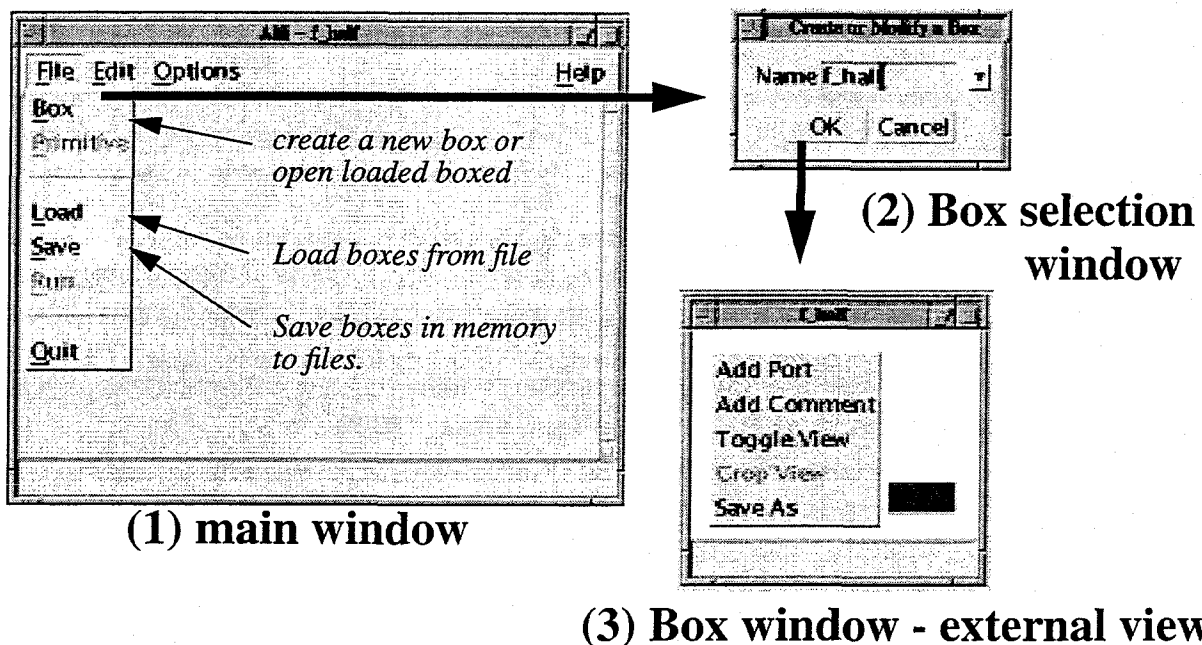

Figure 1: Starting up alfi
The details of this software is given in the Alfi manual. In the windows shown below, all texts written in *italic* and arrows are comments, and will not exit in the real window. When you have completed the setup explained in Section 5, just type `alfi` in the shell window to run the program. You will see the main window in Figure 1. Select "*Box*" from the "*File*" menu. A new window, "Box selection window" comes up. In this window, you create a new description file - called box file for short - or open an exiting one. Type `f_half` for the name and click OK. Another window, Box window, comes up. Choose "*Save*" from the "*File*" menu in the main window. Congratulations, you have written a program using alfi. Make sure that there is a new file created in your directory named `f_half.box`.
This box window is a view of the box from out side. Click in the white region in the window using the right mouse button. A menu shows up, as is shown in the external view in Figure 1. Select "Toggle View" from the menu. The window becomes empty. Now you are looking inside of the box, where you are going to put pieces together, or write a program.
Next, we define the input and output for this box, through which this module communicates with other components. Click the white area in the window with the right button. A menu in Figure 1 (3) appears. Select "Add Port". The Port definition dialog appears as is shown in Figure 4. This dialog lets you define the input and output ports. Type the name of the port in the name field. Select "input", make the data type to be "real", and choose two "left"s and click OK. The blue box on the left edge of the window appears. The orientation buttons define where the port appears.
(1) Port definition dialog
(2) Ports and connections